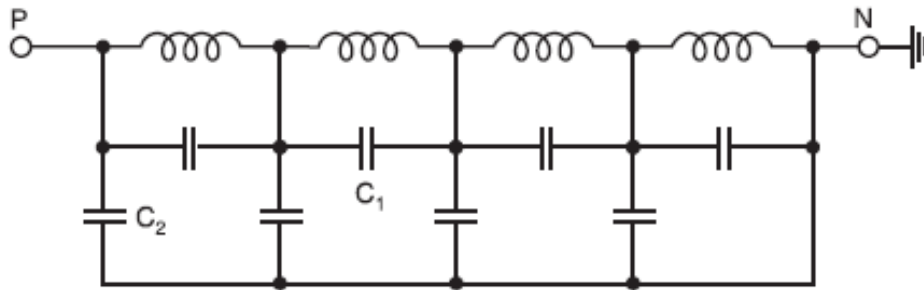

Fig.1: Equivalent circuit of a transformer for impulse voltage
- ✦ The equivalent circuit of the transformer winding for impulses is shown in Fig.1.